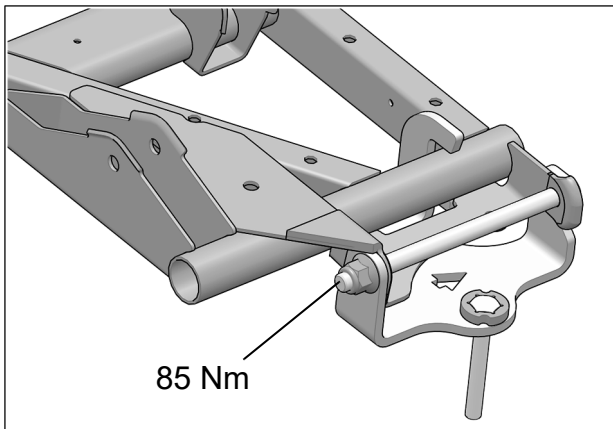

Fig. 10
9. Tighten to 85 N•m [63 lb•ft] of torque. See Fig. 10